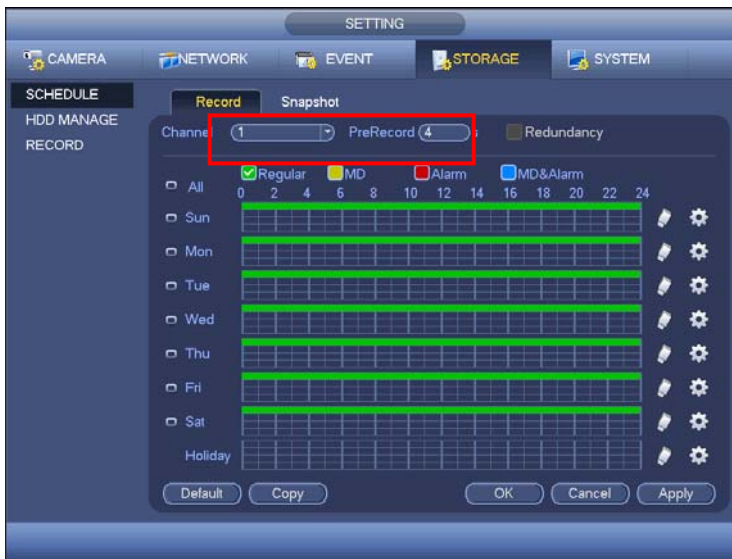

Figure 4-107
- In main menu, from Setting->Camera->Encode->Schedule interface, enable snapshot function. See Figure 4-107.